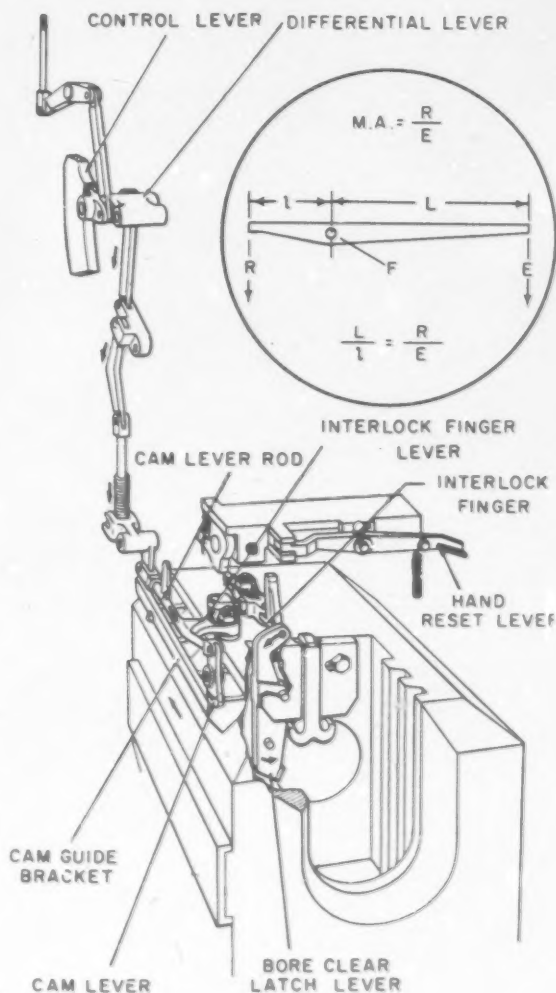

Figure 6-13. — A first class lever.
What is the purpose of levers? It depends upon their application. One thing they all do is transmit motion. Of more importance is their ability to magnify the effort exerted. Look at figure 6-13 while we show how a first class lever works.
Use the formula shown under the lever in figure 6-13; assume that $L = 6$ inches and $L = 2$ inches. Substitute these numbers into the formula.
The formula above the lever (fig. 6-13) is used to compute mechanical advantage (MA). Mechanical advantage is the ratio of the resistance to the applied effort—